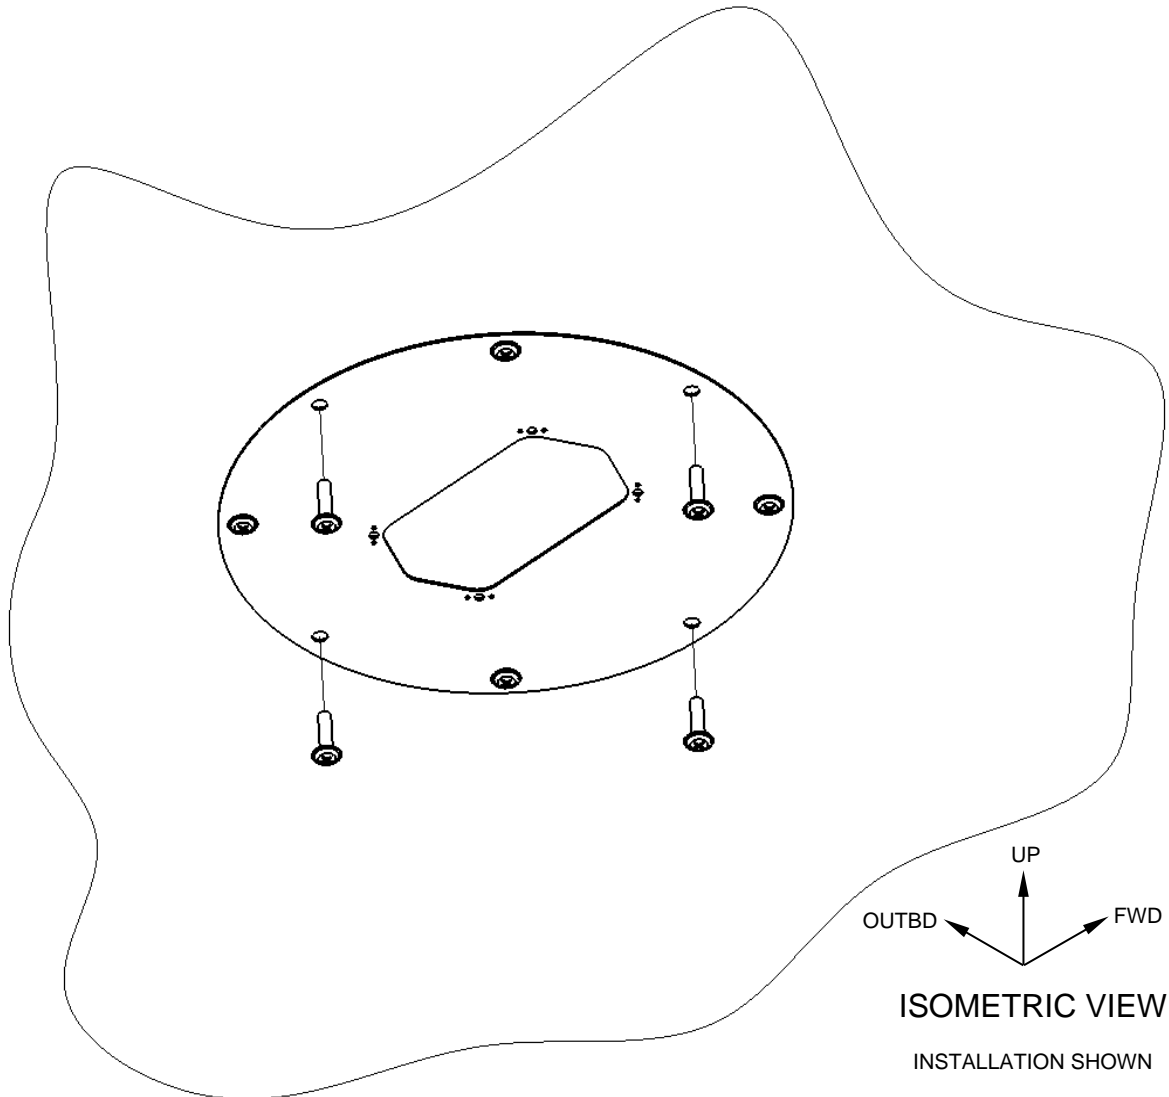

**Figure 6**
11. Using the felt pen marks as reference points, apply the Velcro®, Details (Items 19 & 20) to the honeycomb panel in their respective locations. Reference Figure 6. Apply adequate pressure to ensure a secure bond.